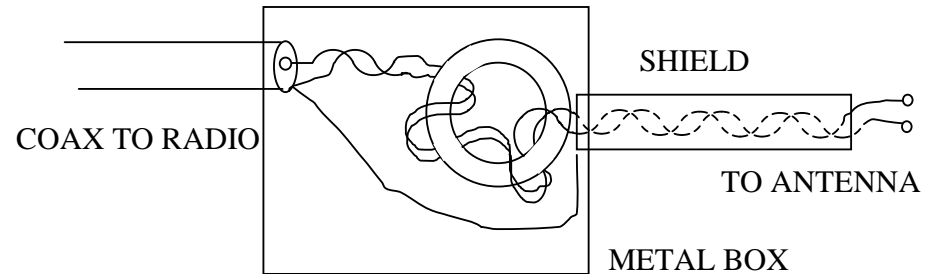

FIGURE 13 – CURRENT BALUN
Current Balun: Another method is to use a balanced line where the undesired current on the feed line is the same on both feed wires, thus it effectively cancels. However, it is desirable to be able to use coax to feed the antenna. We can have our cake and eat it too, if we build a simple current balun to convert from a coax line to a balanced line, then use a short section of the balanced line between the balun and the antenna. A sketch of the balun is shown in Figure 13. The balanced line is comprised of #14 wire (enamel insulation) with a few turns twist per foot. The length should be at least three (3) times the length of the antenna. The twisted line is covered by a shield (stripped from coax). That shield is connected to the coax and the box containing the balun, but the other end near the antenna is left to float. The balun is comprised of a few turns of wire that was first twisted then wrapped thru the toroid core. This is mounted in a box for shielding and weather protection. For the best toroid consult the handbook.